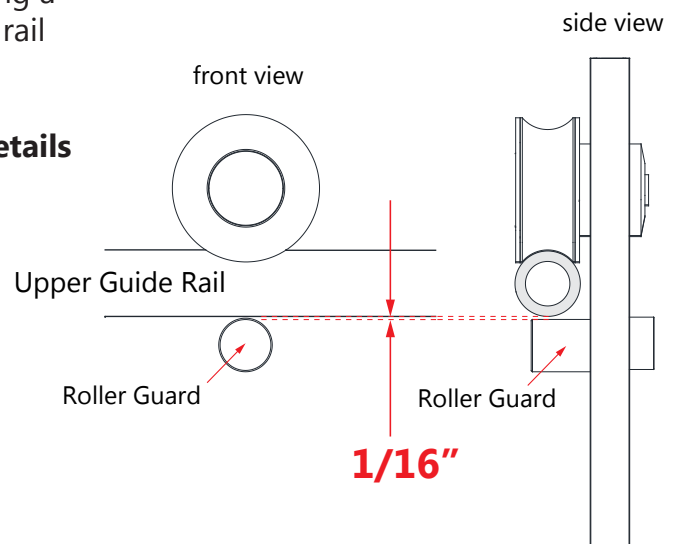

Fig 23
21. Attach the two **Rollers (#04)** to the **Door Glass (#05)** with the wheels facing outside of the shower. Align the **safety set screw** towards the top for easier access (See Fig 22.1, Fig 23 & page 23 for details).
22. Mount the two **Roller guards (#20)** onto the door to secure the door to the **Upper guide rail (#03)** leaving a **1/16" gap** between the roller guards and the guide rail (Fig 23).